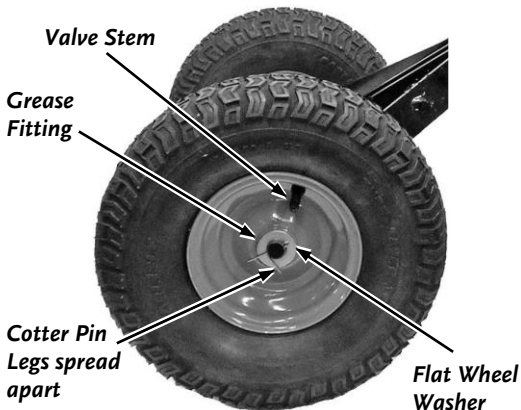

Figure 5
3. Slide a Wheel onto each Axle making sure that the Valve Stem is facing the outside (**Figure 5**).